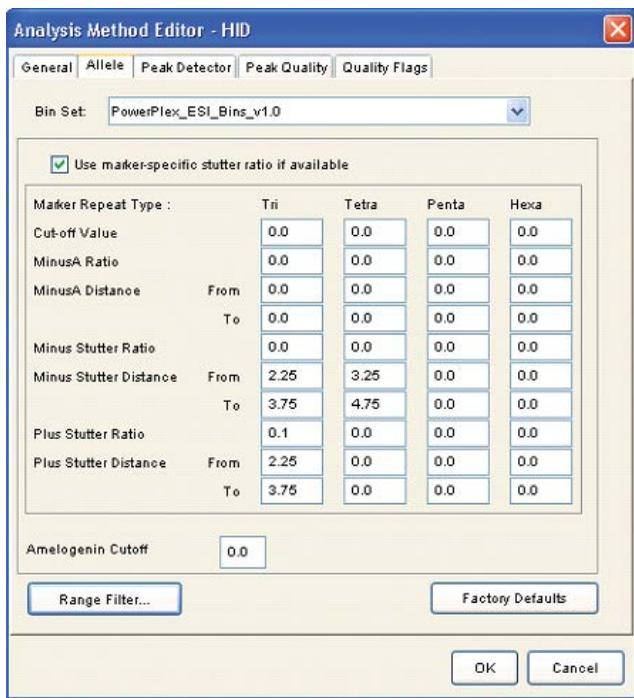

Figure 22. The GeneMapper® ID Allele tab.
6. Select the Allele tab (Figure 22).
9. Enter the values shown in Figure 22 for proper filtering of stutter peaks when using the PowerPlex® ESI 17 Pro System. For an explanation of the proper usage and effects of these settings, refer to the Applied Biosystems user bulletin titled “*Installation Procedures and New Features for GeneMapper ID Software 3.2*”.